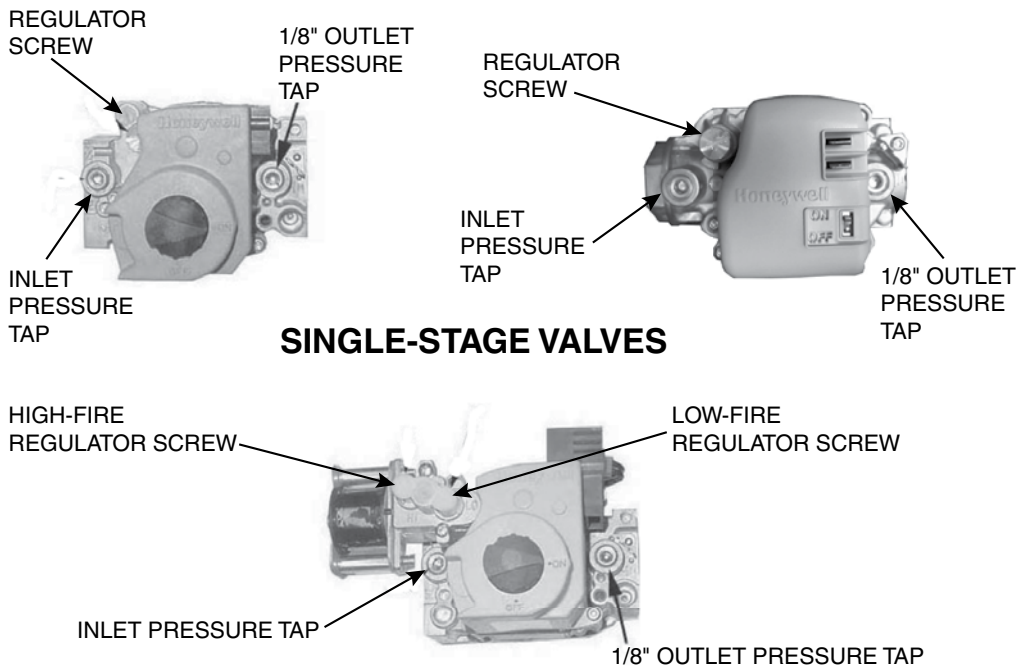

Figure 3. Gas Valves
- c. Connect manometer to 1/8-inch output pressure tap on valve (see Figure 3).
- (1) Turn knob or switch on top of valve to ON.
- (2) Remove cap from regulator screw (see Figure 3) and adjust pressure in accordance with Table 4 by turning regulator screw IN (clockwise) to increase pressure or OUT (counterclockwise) to decrease pressure.
- (1) Disconnect wire from HI terminal on gas valve.
- (2) Remove cap from low-fire regulator screw (see Figure 3) and adjust pressure in accordance with Table 4 by turning regulator screw IN (clockwise) to increase pressure or OUT (counterclockwise) to decrease pressure.
- (3) Reconnect wire to Hi terminal on gas valve.
- i. Connect manometer to inlet pressure tap (see Figure 3). While heater is operating, measure inlet pressure, which should be as follows:
- (1) between 5 and 13.5 IN WC for all natural gas models
- (2) between 10 and 13.5 IN WC for UDAP, UDAS, UDBP, and UDBS propane models
- (3) between 11 and 13.5 IN WC for UBX, UBZ, UDX, and UDZ propane models